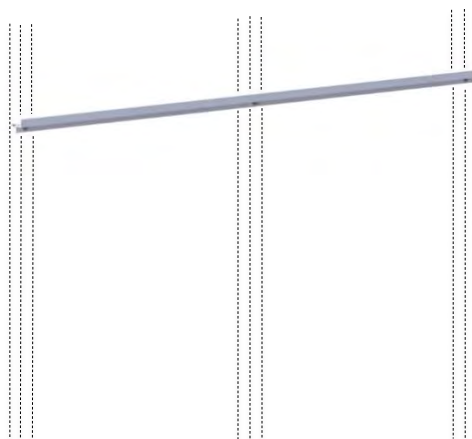

Figure 4: Flush Mount hanging bar
5. Use the provided 2" screws or other appropriate fasteners to secure the Flush Mount hanging bar to the wall studs (see Figure 4).